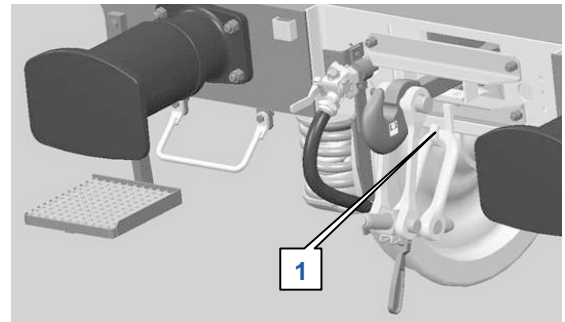

Fig. 1
- Unused screw coupling has to be hanged on a coupling hook. **(1)** (Fig. 1).